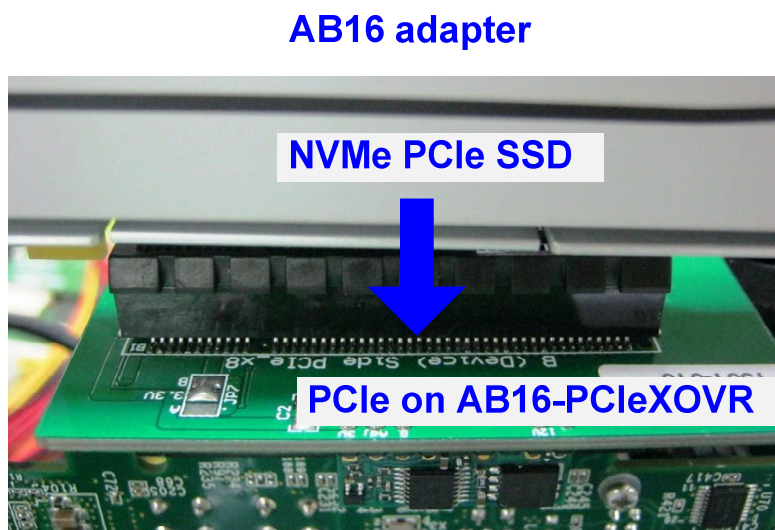

Figure 2-3 Connect NVMe SSD to AB16 board
- 4) Connect NVMe SSD to PCIe connector on B Side of AB16-PCIeXOVR board, as shown in Figure 2-3.